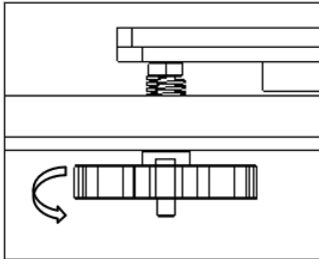

Fig 1
**Step 2:** Tighten the hand nuts under the bed to move down the bed to the lowest position (Fig 1).